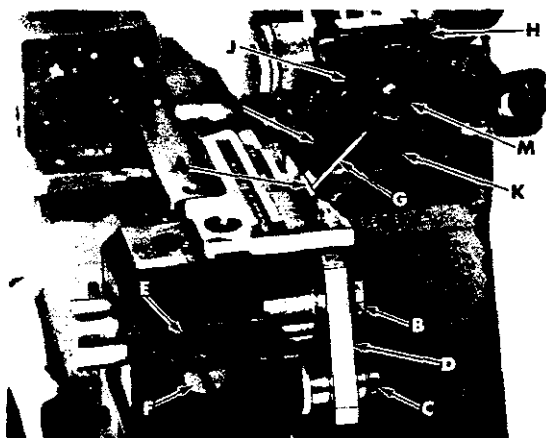

Fig. 16
Cutting edge of knife (A, Fig. 16) must be even and parallel with top surface of throat plate. Examine sewn sample for specified seam width and appearance. If adjustment is required, loosen screw (B) and adjust knife (A) up or down until its cutting edge is flush with top of throat plate, then tighten screw (B).
At lowest position the front tip of upper knife cutting edge must extend 1/64 - 1/32 inch (.4 - .8mm) below cutting edge of lower knife. If adjustment is required, rotate handwheel to position upper knife driving arm at lowest position; with upper knife (G, Fig. 16) at lowest position of travel and while holding upper knife firmly against lower knife, adjust knife holder (H) left to right, to position front tip of upper knife cutting edge 1/64 - 1/32 inch (.4 - .8mm) below cutting edge of lower knife, then tighten screw (J).